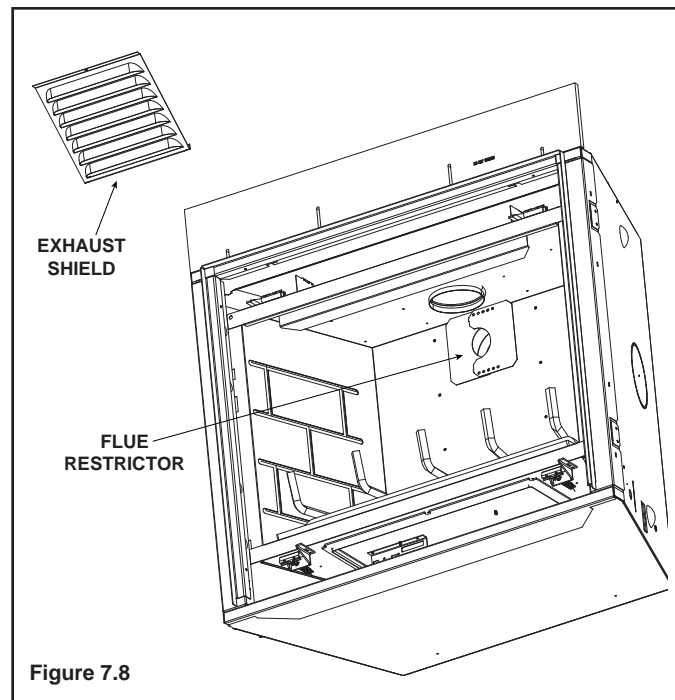

Figure 7.8
1. Remove exhaust shield using a 1/4 inch nut driver by removing the four screws securing it in place. See Figure 7.8.
4. Center the two flue restrictor pieces on the vent at the setting selected in step 3 and secure in place by using two self-tapping screws. See Figure 7.8.